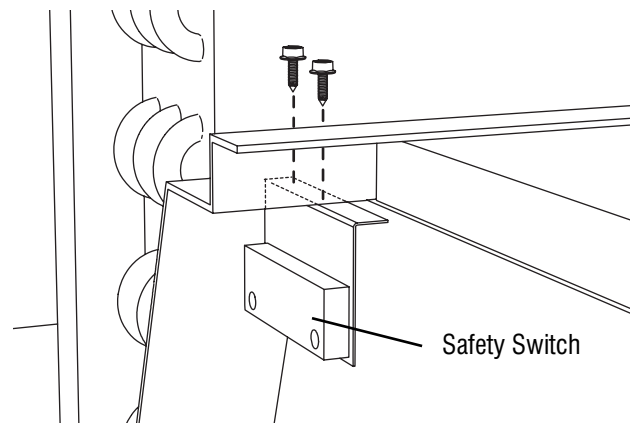

Fig. 10 Mount safety interlock switch.
1. Using included screws, mount the safety interlock switch to the coil drip shield.(Fig. 10)